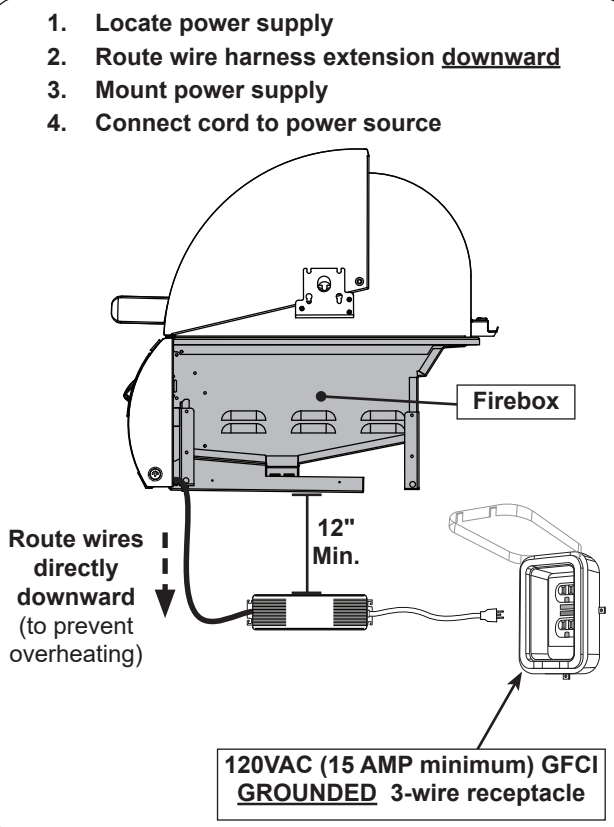

Fig. 29-3 Electrical installation
1. Route the power supply below the control panel and directly downward. This will prevent overheating. **DO NOT** route the harness below the unit firebox. See Fig. 29-3.
- located at least **12"** below the bottom of the unit (see Fig. 29-3)
3. Connect the power cord to a **120VAC (15AMP minimum) GFCI GROUNDED three-wire receptacle** (see Fig. 29-3). The GFCI receptacle must be a WEATHER-PROOF IN-USE COVERED RECEPTACLE.